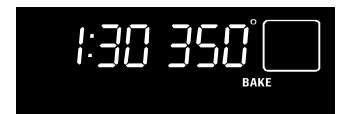

Fig. 2
4. Press . The oven will turn ON and begin heating (See Fig. 2).